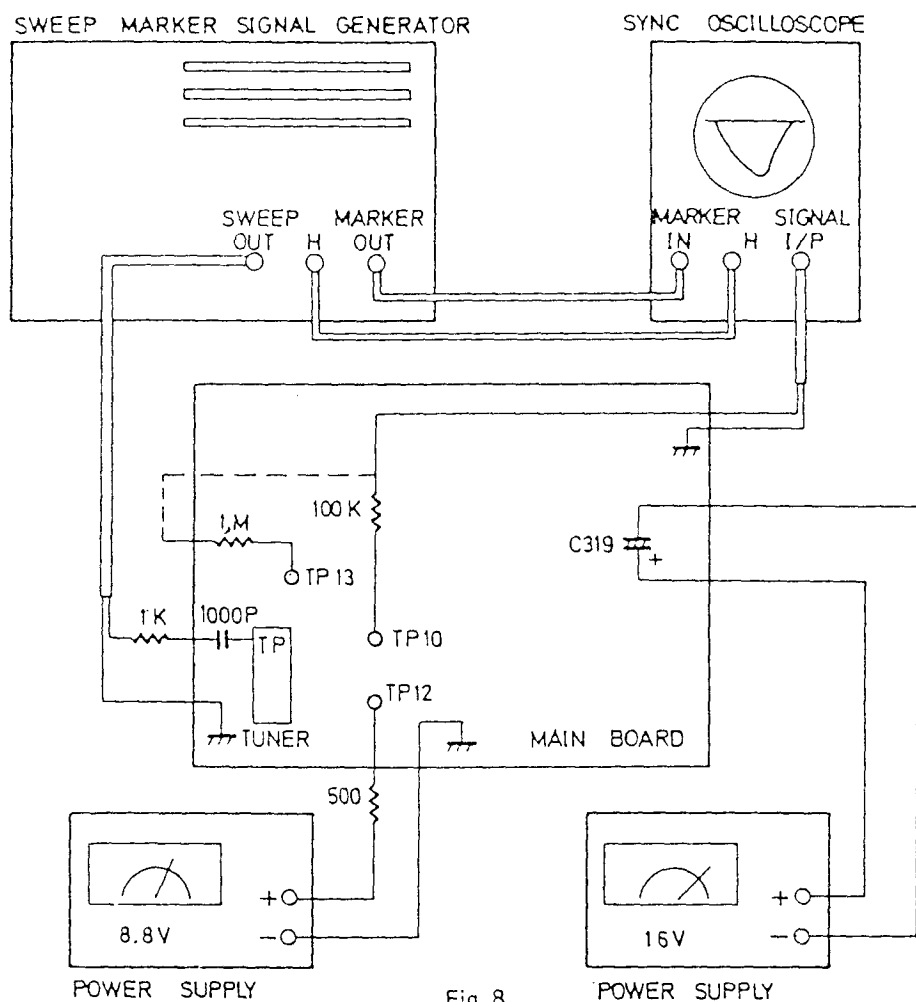
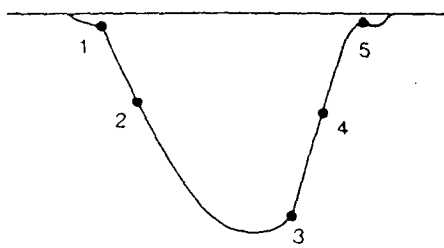

Fig. 8
Fig. 9 P.I.F. Response Curve
- (1). Connect the signal output of sweep/marker generator in series to T_p on tuner through 1K ohm resistor and 1000 pf capacitor (See Figure 8).
- (2). Connect the vertical input terminal of a sync oscilloscope in series with a 100K ohm resistor to TP 10 (IC201—pin39).
- (3). Apply a + 16V DC across C319 on Main Board.
- (4). Apply a + 8.8V DC dummy AGC bias in series to TP12 (pin 5 of IC101) through 500 ohm resistor.
- (5). Tune L103 and L104 alternatively to obtain a waveform as shown in Fig. 9.